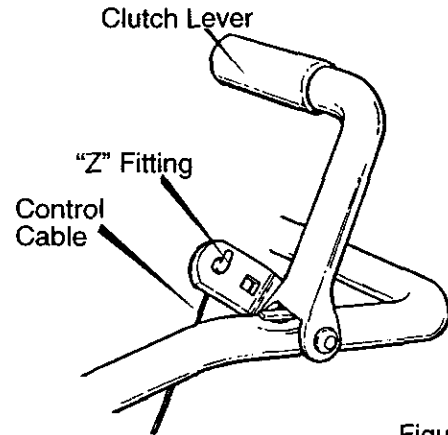

Figure 4
**NOTE:** If the cables have become disconnected from the clutch levers, reinstall the cables as shown in Figure 4.